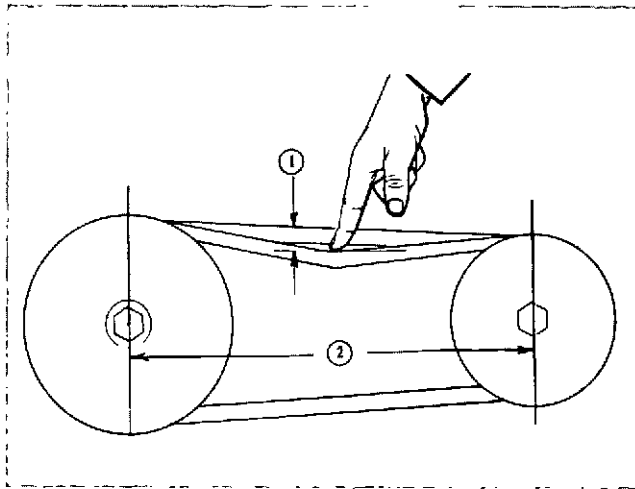

Fig. 2-28 (N11471) Checking belt tension manually
2. If belt tension gauge is not available, tighten belts so pressure of index finger will depress belt amount of deflection in Table 2-1. The index finger should be extended straight down from hand; in this manner, force will be approximately 13 lbs. [5.9 kg] deflection (1, Fig. 2-28) per foot [0.3 m] of span (2).
3. Deflection (1, Fig. 2-28) should equal amount indicated in Table 2-1 for each foot of belt span (2).